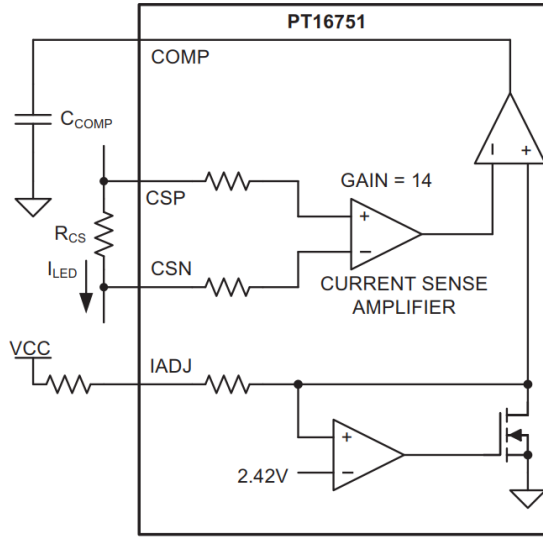
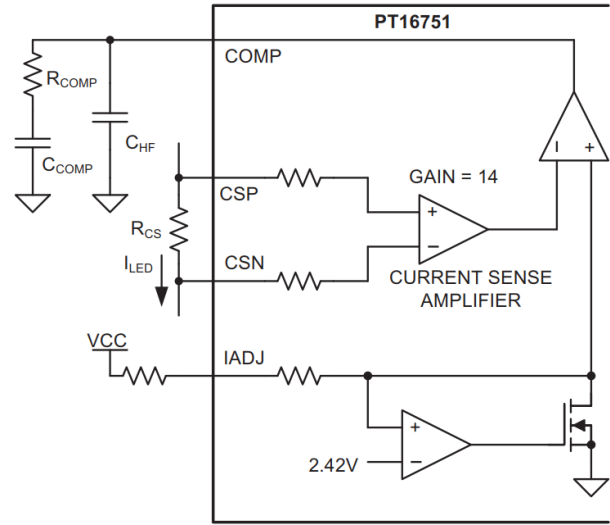

Figure 23. Integral Compensation
Figure 24. Proportional-Integral Compensation
The feedback transfer function includes the current sense resistor and the loop compensation of the transconductance amplifier. A compensation network at the output of the error amplifier is used to configure loop gain and phase characteristics. A simple capacitor, C_{COMP} , from COMP to GND (as shown in Figure 23) provides integral compensation and creates a pole at the origin. Alternatively, a network of R_{COMP} , C_{COMP} , and C_{HF} , shown in Figure 24, can be used to implement proportional and integral (PI) compensation and to create a pole at the origin, a low-frequency zero, and a high-frequency pole.